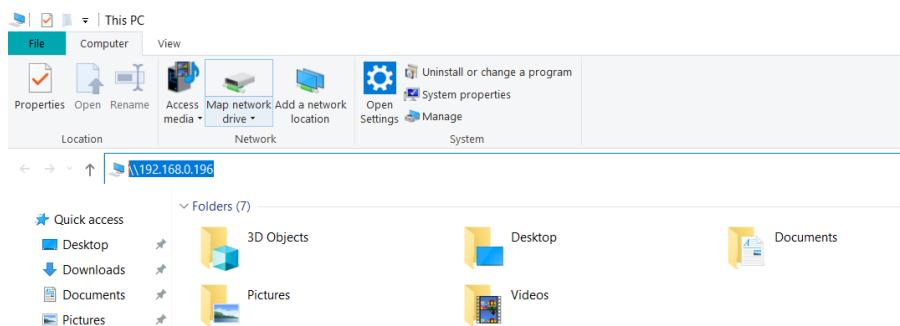

Figure 5-1 Data Copy
3. Open “my computer” (computer) and type “\\192.168.0.196” in the address box, as shown in Figure 5-1: